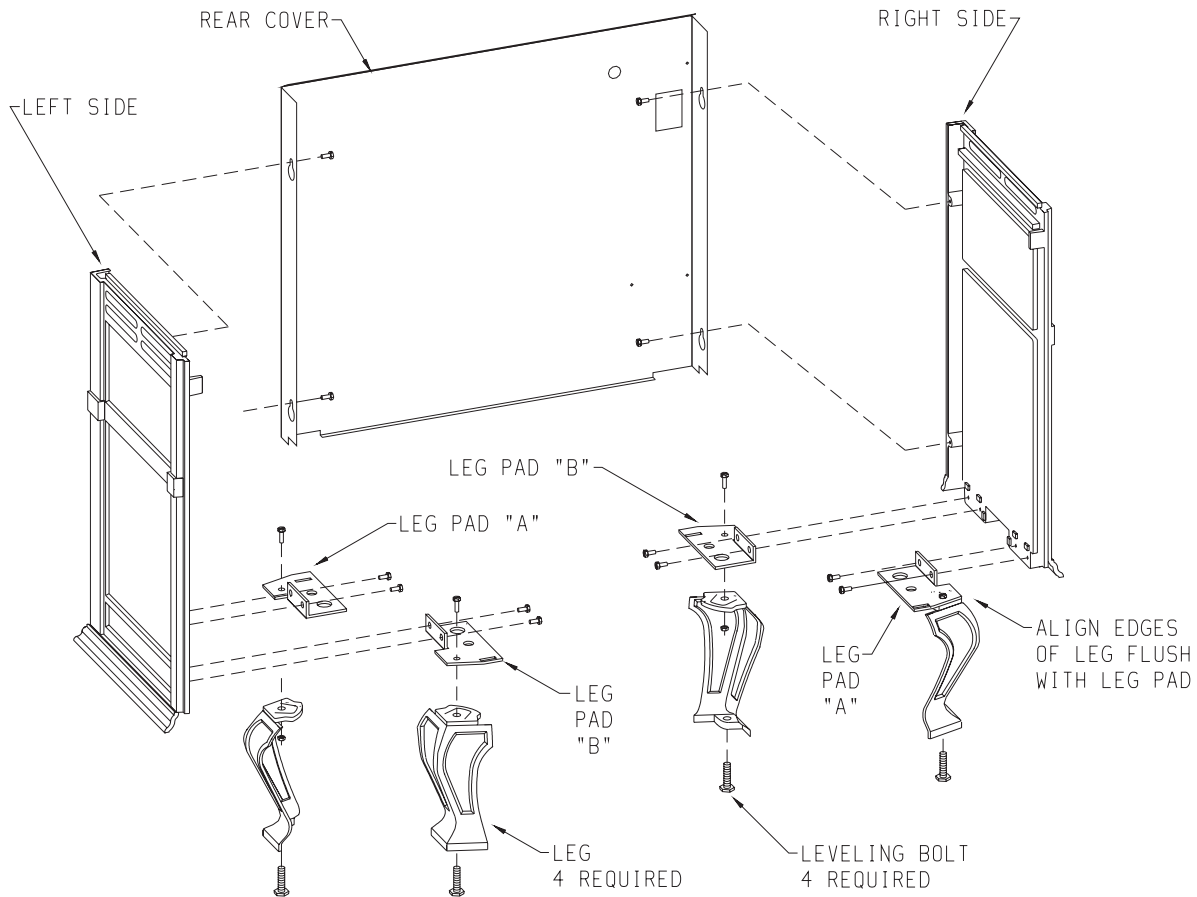

Figure 6
| Leg Pad "A" (see Figure 6)                 | CI-008      | 2                 |
| Leg Pad "B" (see Figure 6)                 | CI-009      | 2                 |
## Assembly of Stove Casting (Figures 6, 7, 8, 9, 10, 11 and 12)
- A. Attaching legs to the sides (Figure 6).
3. Refer to Figure 6, the leg pads will have the letter "A" and "B" stamped into the metal. Place leg pad "A" and leg pad "B" at the bottom of each casting side. Leg pad "A" attaches to the front of the casting side, right and to the rear of the casting side, left. Leg pad "B" attaches to the rear of the casting side, right and to the front of the casting side, left. Position the 3/4" flange on the leg pad against the (2) locator dimples on the casting side. The 3/4" flange must be facing upward, toward the top louver openings on the casting side. Attach the two **rear** leg pads to the casting sides with (2) 3/8" bolts. Attach but do not completely tighten the two **front** leg pads to the casting sides with (2) 3/8" bolts. **Attention:** The front leg pads can be adjusted to provide a snug fit between the casting front and the casting sides.
4. Attach (4) leveling bolts to the bottom of the (4) legs.